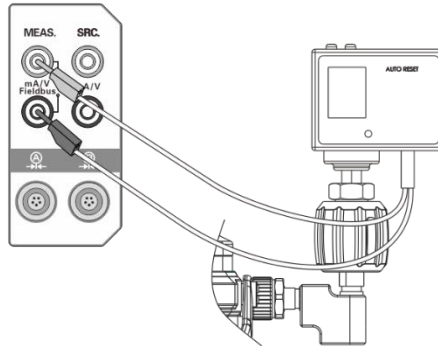

Figure 25 Calibration of a pressure switch
- ◆ Connect the switch as shown in Figure 25 (it is a mechanical switch in the figure. If the tested switch type is NPN or PNP electronic switch, please connect the electric circuit as shown in Figure 12 or 13).